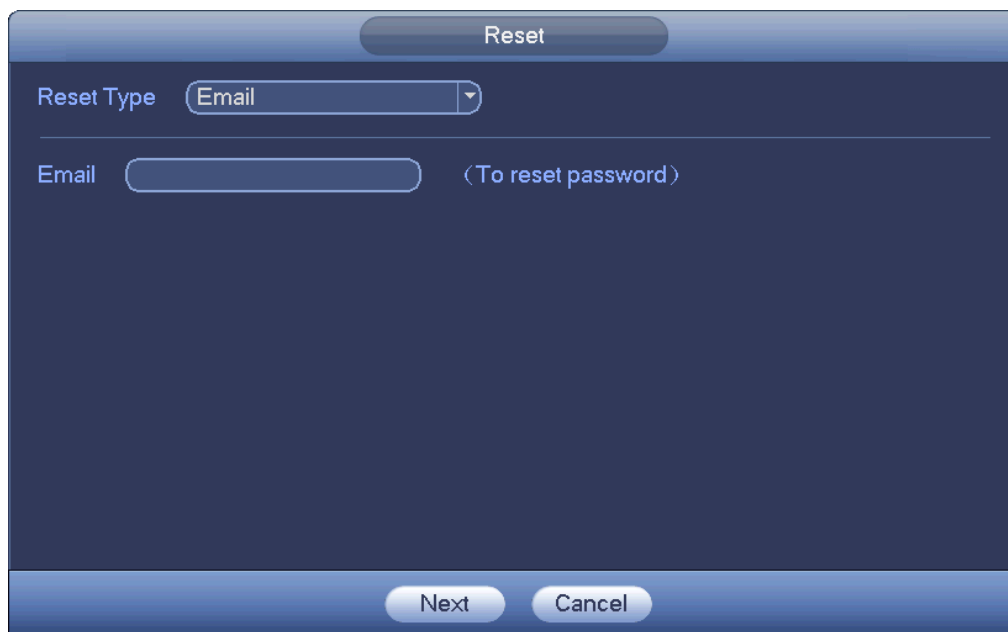
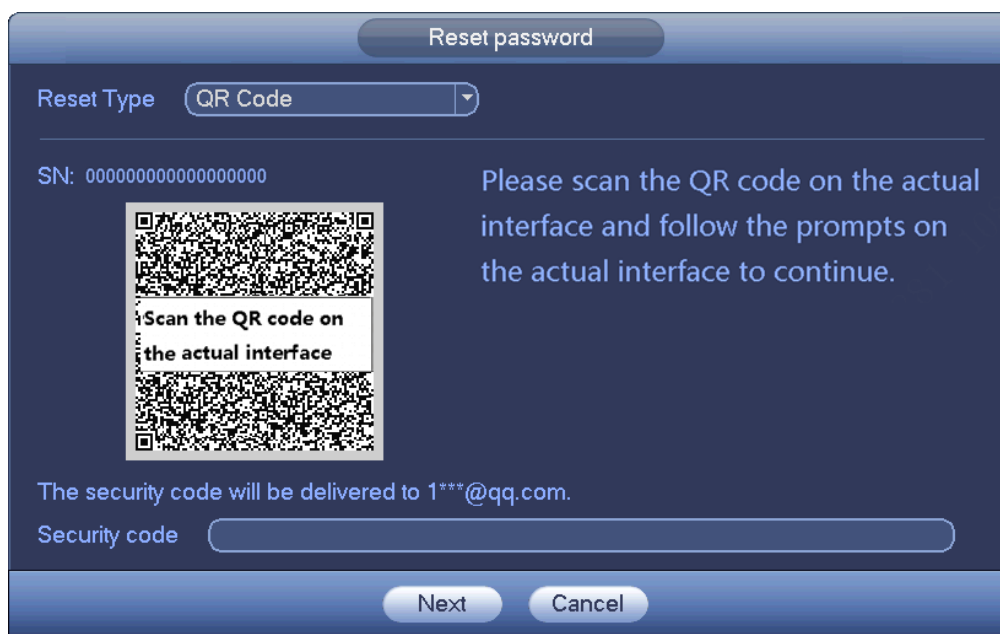

Figure 4-6
Figure 4-7
- If you have not input email address information when you are initializing the device, the interface is shown as in Figure 4-6. Please input an email address and then click Next button, devices goes to Figure 4-7.
- If you have input email when you are initializing the device, device goes to Figure 4-7.
In Figure 4-7, follow the prompts on the interface to scan the QR code, and then input the security code you get via the assigned email.
In Figure 4-6., select security question from the drop down list. Device displays security question interface. See Figure 4-8. Please input the correct answers here.